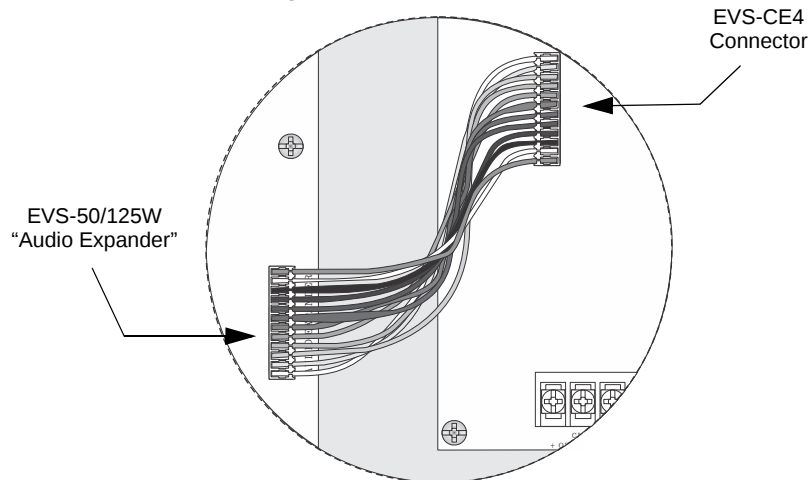

Figure 4.50 Audio Expander Wire Harness Connections
- Connect the audio expander cable harness (P/N 130426) from the connector labeled “Audio Expander” on the EVS-50W or EVS-125W to the connector on the EVS-CE4 as shown in Figure 4.50.